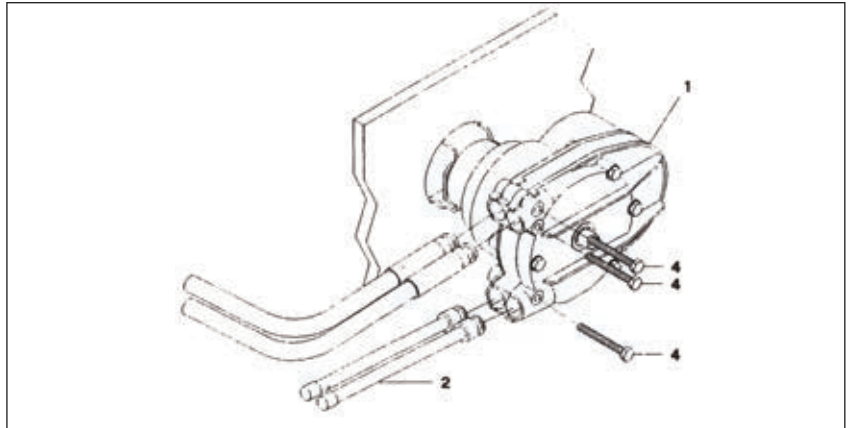

Figure 4.
STEP 2. Feed the cable ends into the **UPPER** entry spigots, keeping the conduit fittings aligned, until they contact the internal gears. Then turn the steering wheel to draw the cables fully into the helm. Continue turning steering wheel until both conduit end fittings are fully inserted into the entry spigots. See Figure 4.
STEP 3. Insert two bolts (item 4) into the helm and tighten fully, making sure that both bolts are in the retaining grooves of both cable fittings. See Figure 4.
STEP 4. Feed the Spent Travel Tubes (item 2) over the exposed cable ends and insert bolt (item 4) into the helm, tighten fully. See Figure 4.